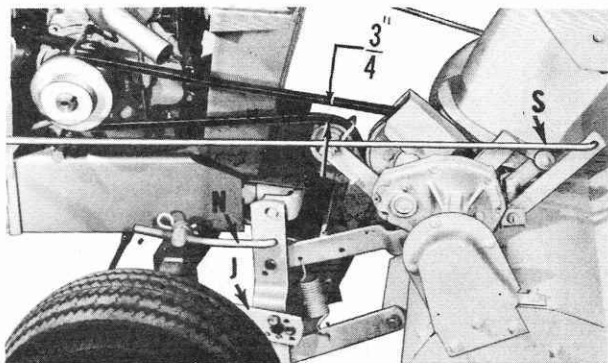

FIG. 9
15. Refer to Fig. 9. Lift Rotary Snow Plow with lift lever and disengage clutch, by pulling back on clutch control rod (S). Assemble belt on largest groove of engine pulley, (second groove from outside end). Engage clutch by pushing clutch control rod forward. Rotary Snow Plow belt must have approximately  $\frac{3}{4}$ " clearance between belt as shown. If clearance is much greater than  $\frac{3}{4}$ " clutch will not release properly. Offset links (N) can be shortened or lengthened to acquire the  $\frac{3}{4}$ " clearance. In some instances it may be necessary to also assemble bolts in different holes of push straps (J), to acquire the above clearance, and still keep front edge of snow thrower near vertical. See Page 7 for more detailed instructions for adjustment of Rotary Snow Plow drive belt.